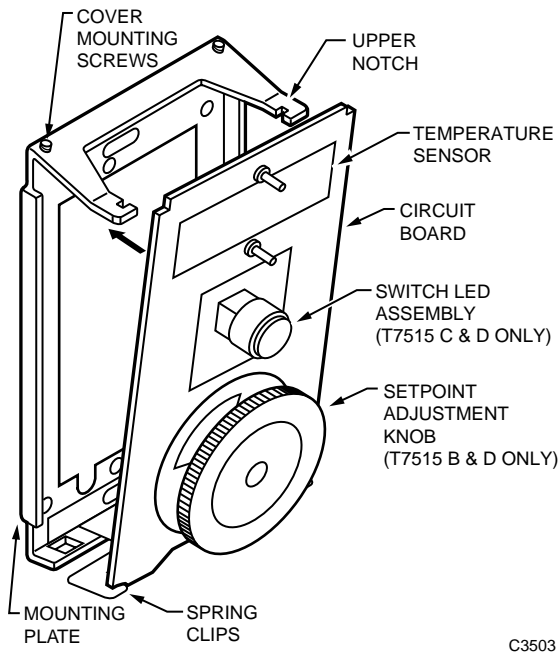

Fig. 3. Attaching Space Sensor to Mounting Plate.
3. Mount the Space Sensor circuit board on the mounting plate (see Fig. 3).